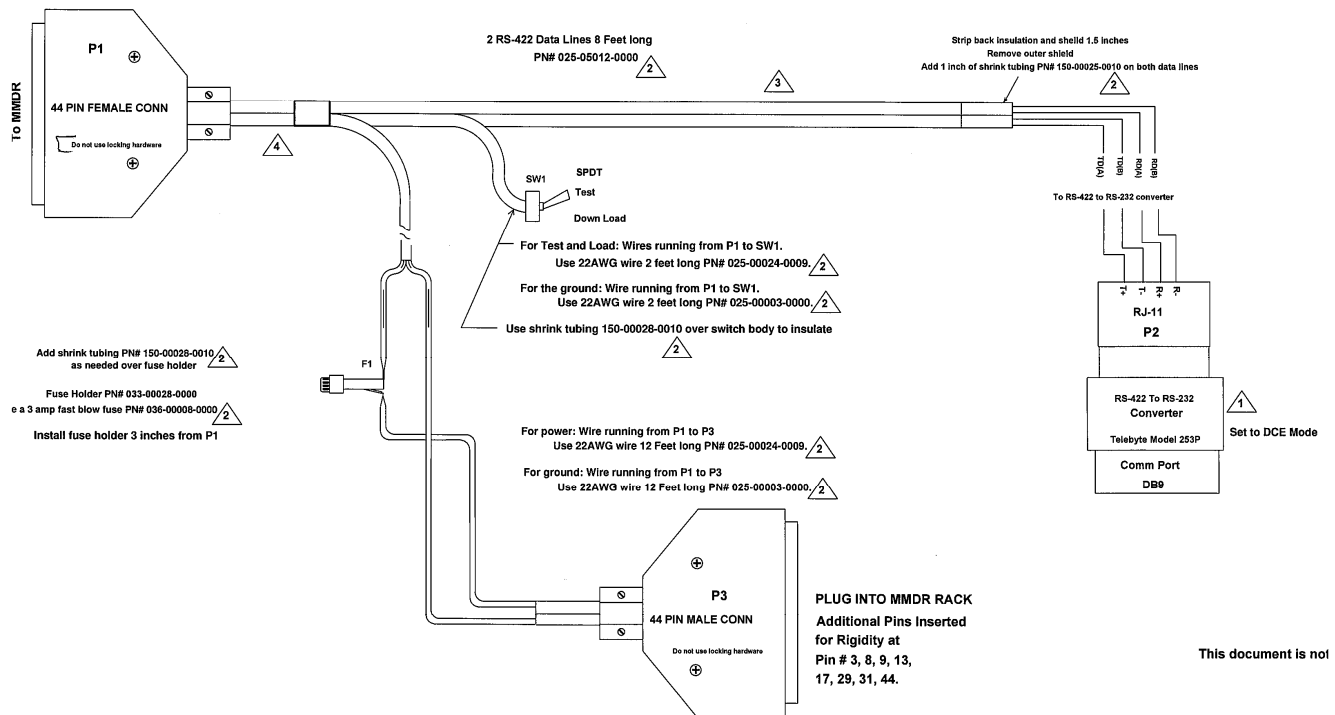

Figure 4. SW LOAD CABLE CONNECTIONS
- 2) Connect MMDR APEX ON-WING SW LOADING CABLE, HPN 300-10947-0000, to the MMDR rack connector, and then connect unit under test (UUT) and the PC RS-232 Com port like shown in Figure 4.